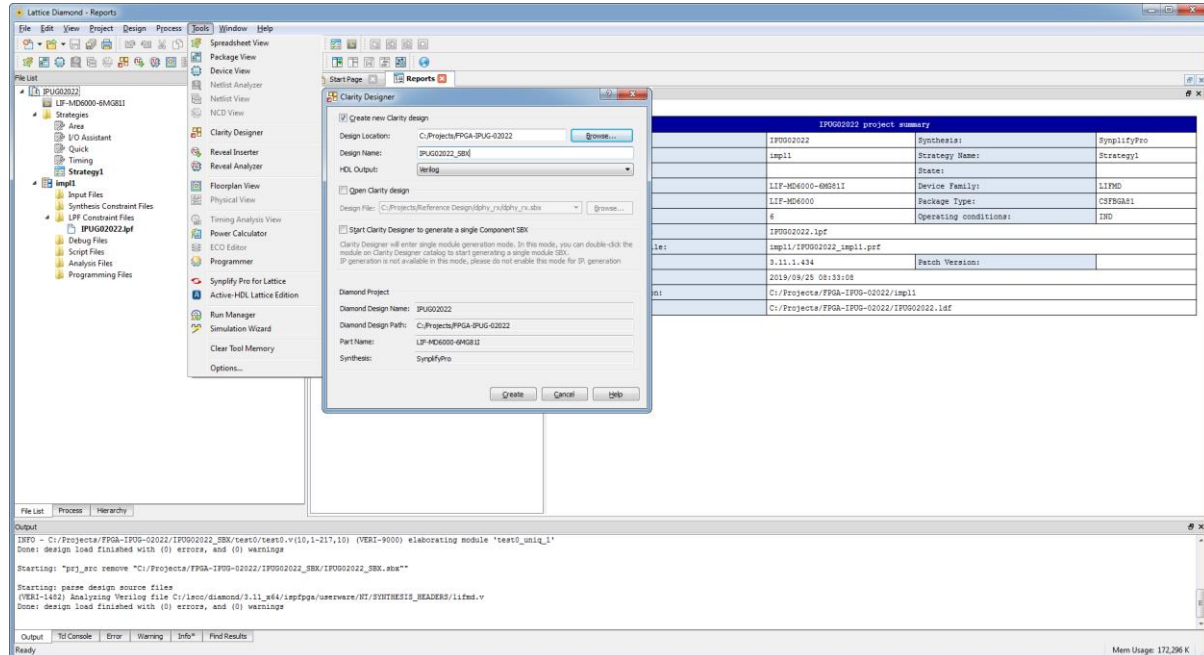

Figure 5.2. Starting Clarity Designer from Lattice Diamond Design Environment
3. Select and/or fill out the following items as shown in Figure 5.2.